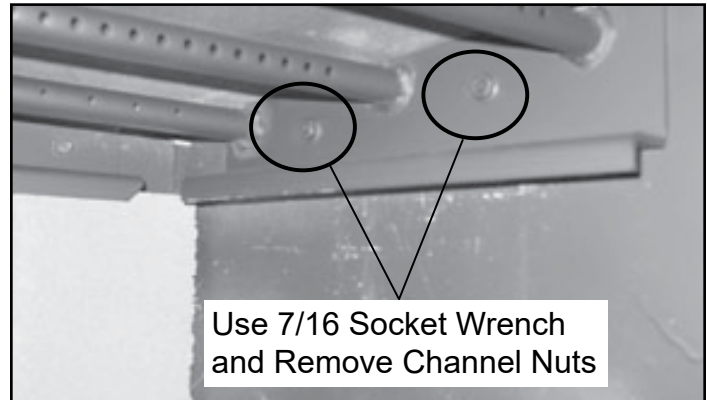

Figure 24.3
3. Locate the 2 channel nuts and 2 bolts inside of chamber and remove using a 7/16 socket wrench for the nuts and a 3/8 socket wrench for the bolts (**Figure 24.3**).